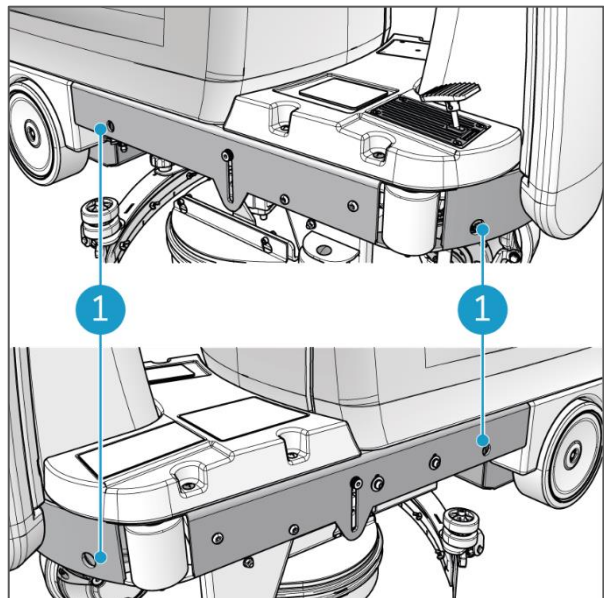

Figure 10
9. Secure the machine using straps or rope through the 4 holes in the chassis (Figure 10, pos 1).